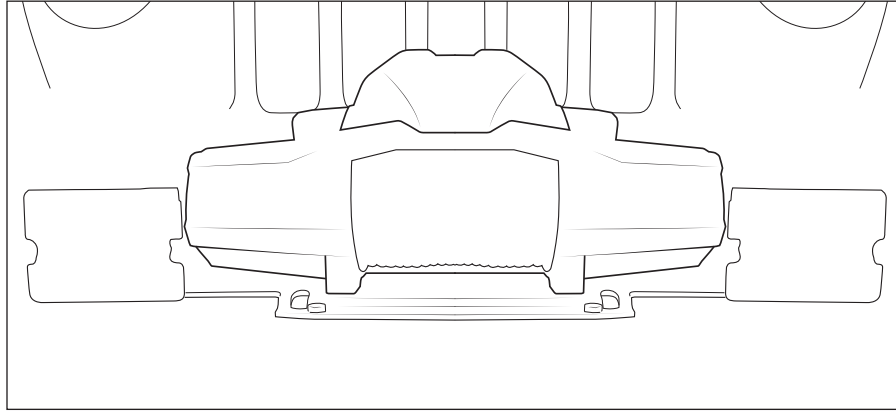

Figure 15
7. Place winch onto winch mount and bolt into place using the hardware provided by the winch manufacturer. It can be wired per the manufacturer's recommendations either now or after final bumper installation (fig. 15) Some larger bodied winches like Warn Zeon 10 will need to be slid in place one end at a time to fit past the frame flanges. Leaving these wider bodied winches loose until after step IV-2 may make that step easier, then bolt them down after that step is completed.